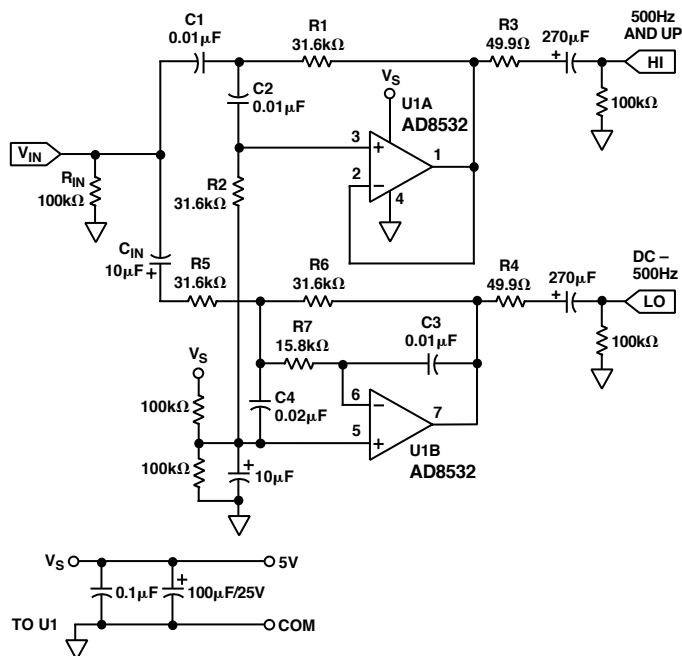

Figure 41. A Single-Supply, Two-Way Active Crossover
Active filters are useful in loudspeaker crossover networks for reasons of small size, relative freedom from parasitic effects, the ease of controlling low/high channel drive and the controlled driver damping provided by a dedicated amplifier. Both Sallen-Key (SK) and multiple-feedback (MFB) filter architectures are useful in implementing active crossover networks. The circuit shown in Figure 41 is a single-supply, two-way active crossover which combines the advantages of both filter topologies. This active crossover exhibits less than 0.4% THD+N at output levels of 1.4 V rms using general purpose unity-gain HP/LP stages.